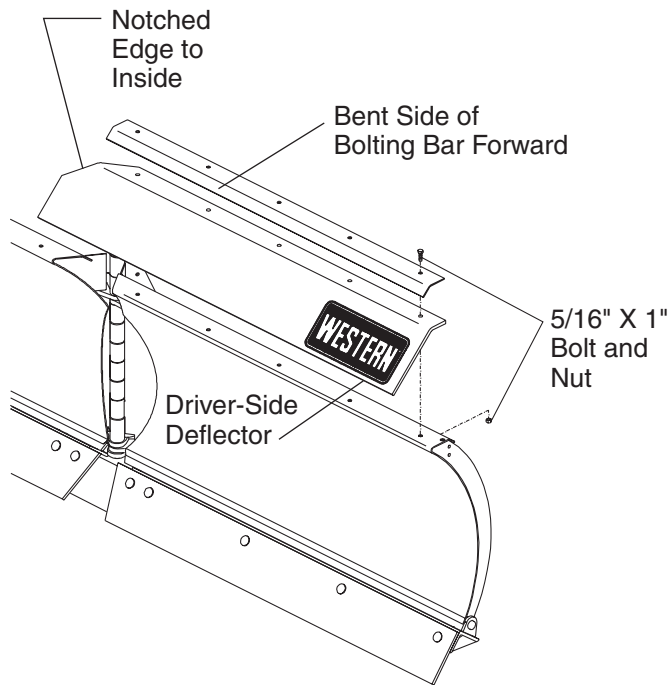

Figure 7
1. Align the holes in the bolting bar, rubber deflector, and the top curl of the blade. The notched edge of the rubber deflector goes towards the inside. The rubber deflector with the WESTERN® logo goes on the driver side. The bent side of the bolting bar goes towards the front. **(See Figure 7.)**